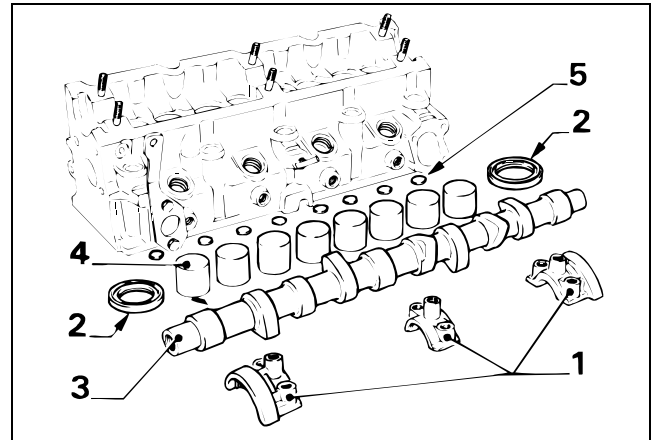

Figure 65
1. Progressively slacken the camshaft bearing caps (Fig. 65, Item 1).